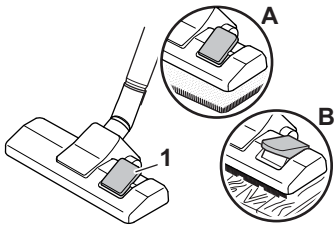

Fig. 12
5. Adjust the carpet/hard floor switch (Fig. 12) depending on the type of flooring:
- **Hard floor (Fig. 12/A)**
- **Carpet (Fig. 12/B)**